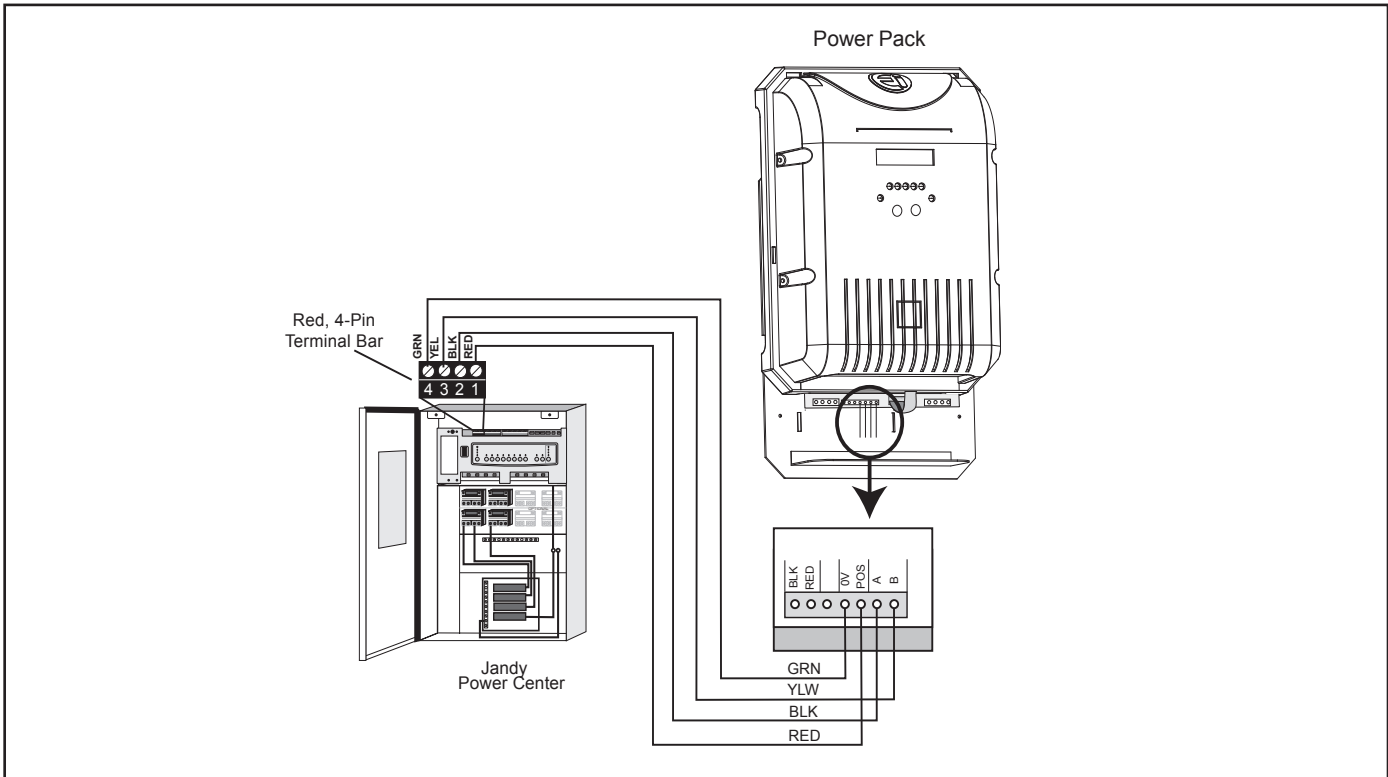

Figure 21. Communication Wiring between Power Pack and AquaLink RS Control System or PDA Network
7. The Jandy® AquaLink® RS or PDA and power pack use a four (4) wire connection to communicate and can be wired up to 500 feet apart. Any outdoor rated four conductor cable, minimum 22 AWG, can be used. Locate the appropriate screw terminals on the circuit board and wire the power pack to the AquaLink RS or PDA red 4-pin terminal bar (see Figure 21).